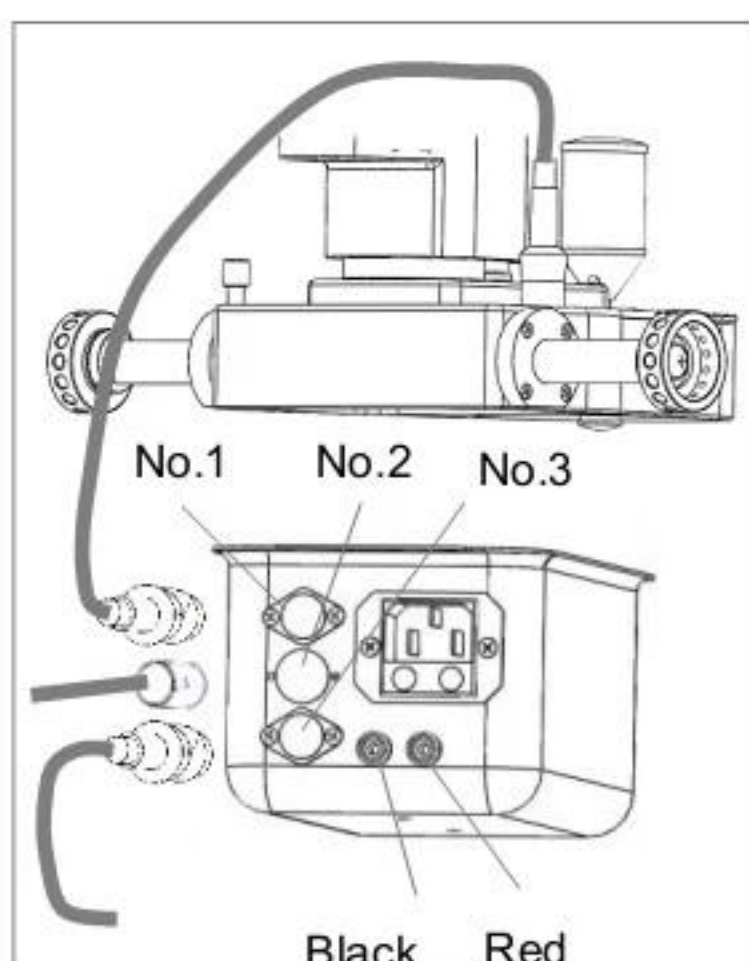

Fig. 16: Transformer case (Rear View)
- 1) Connect plugs to the receptacles at the back side of the transformer(Fig. 16).